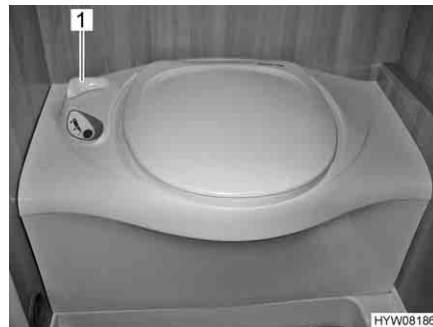

Fig. 226 Thetford toilet
- Before flushing open the sliding trap of the Thetford toilet. To do this, turn the slide lever (Fig. 226,1) in an anticlockwise direction.
- After flushing close the sliding trap. To do this turn the slide lever (Fig. 226,1) in a clockwise direction.